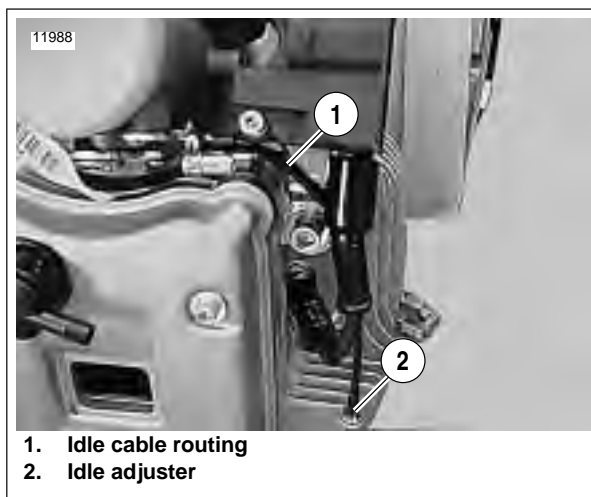

Figure 1-47. Idle Adjuster
See Figure 1-47. Regular idle speed is 1050 - 1150 RPM. Set idle speed using idle adjuster (2). Turn adjuster clockwise to increase idle speed or counterclockwise to decrease idle speed.